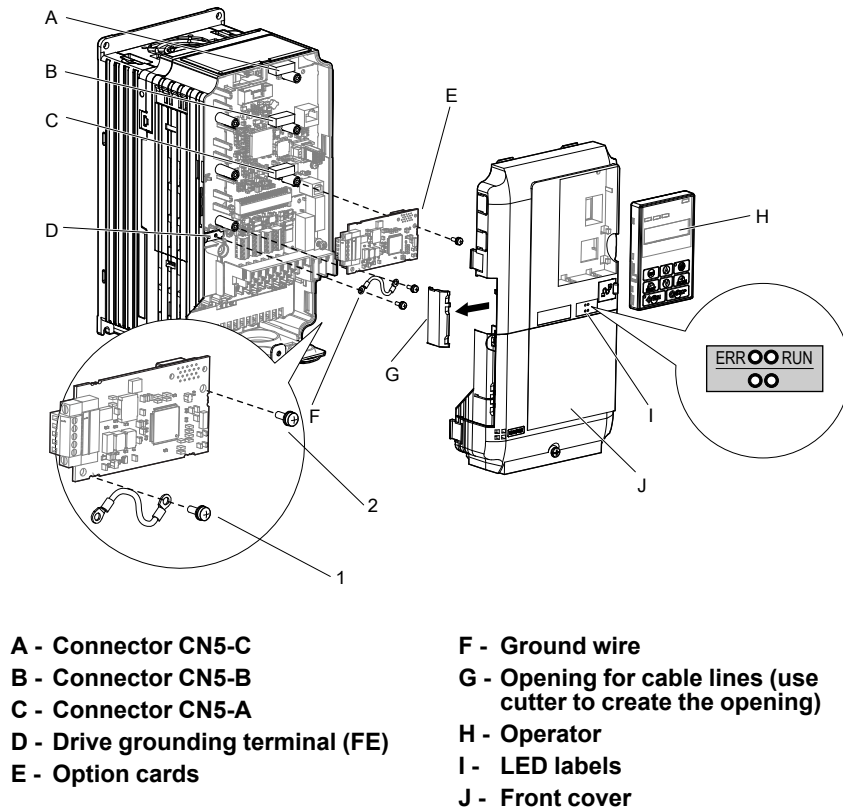

Figure 5.1 Installing the Option Card
8. Attach the LED label (I) as shown in Figure 5.1.